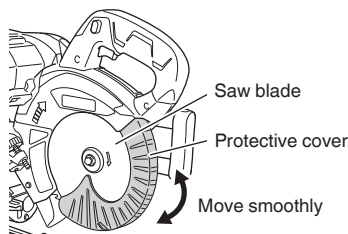

Fig. 15
- If the face deflection is large, check the installation of the saw blade, washer (A), washer (B), and saw blade fixing bolt, referring to "INSTALLATION (REPLACEMENT) OF SAW BLADE" on page 12.
- Make sure that the blade moves smoothly so as to cover the saw blade. (Fig. 15)